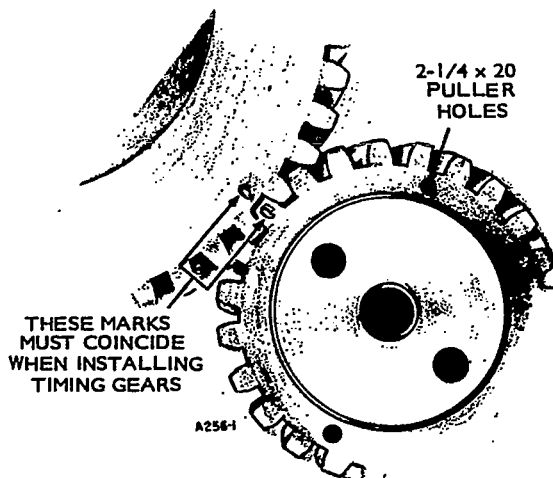

FIGURE 53. TIMING MARKS
5. Install camshaft assembly in engine. Align timing marks on camshaft gear and crankshaft gear. See Figure 53.